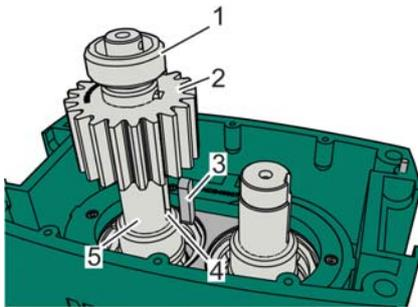

Fig. 138: Sliding the toothed wheel onto the drive shaft, example
13. ▶ Insert the lightly lubricated key (Fig. 138/3) into the keyway (Fig. 138/4) of the drive shaft (Fig. 138/5).
14. ▶ Slide the smaller toothed wheel (Fig. 138/2), with the part number facing up, onto the drive shaft (Fig. 138/5), aligned with the keyway on the key, onto the distance ring.
15. ▶ Slide the distance ring (Fig. 138/1) onto the drive shaft (Fig. 138/5).